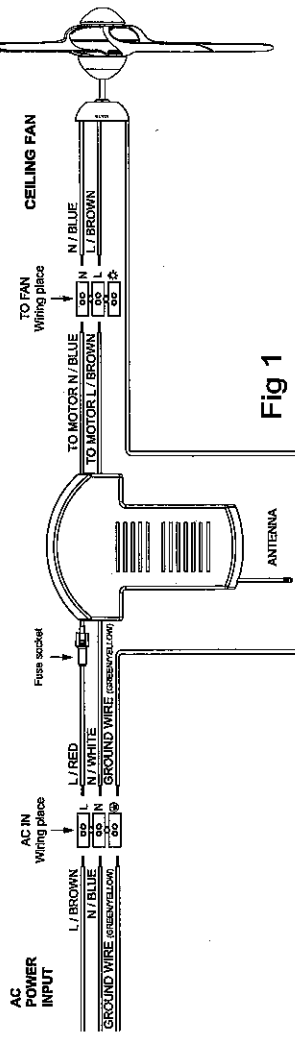

Fig 1
1. A typical ceiling fan remote control is wired as shown in this wiring diagram. (Fig. 1)